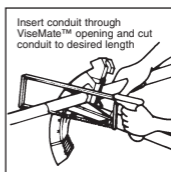

Figure 5
*Cut off any excess conduit using Vise-mate™ feature. Please see Figure 5.